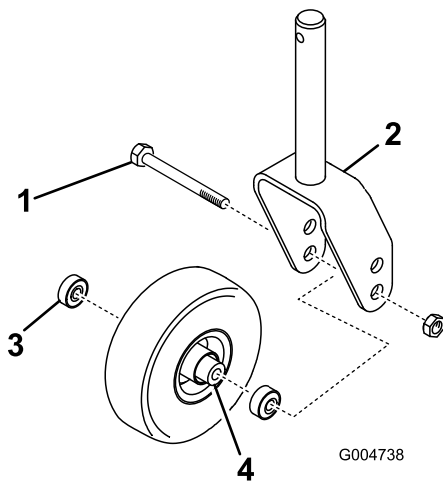
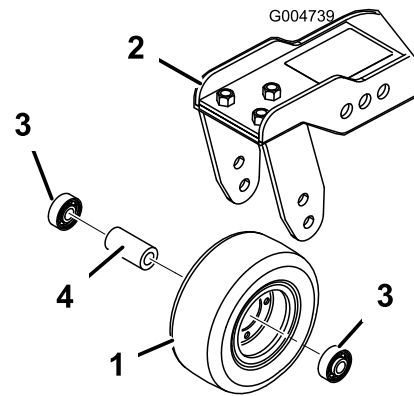

Figure 81
Figure 82
1. Remove the locknut from the bolt holding the castor wheel assembly between the castor fork (Figure 81) or the castor pivot arm (Figure 82). Grasp the castor wheel and slide the bolt out of the fork or pivot arm.
2. Remove the bearing from the wheel hub and allow the bearing spacer to fall out (Figure 81 and Figure 82). Remove the bearing from the opposite side of the wheel hub.